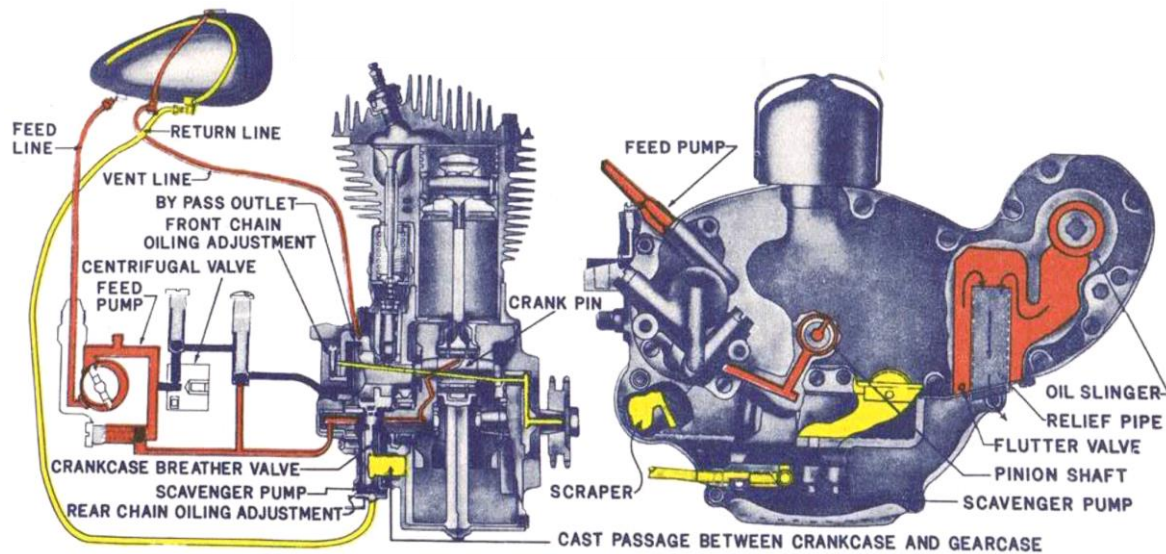
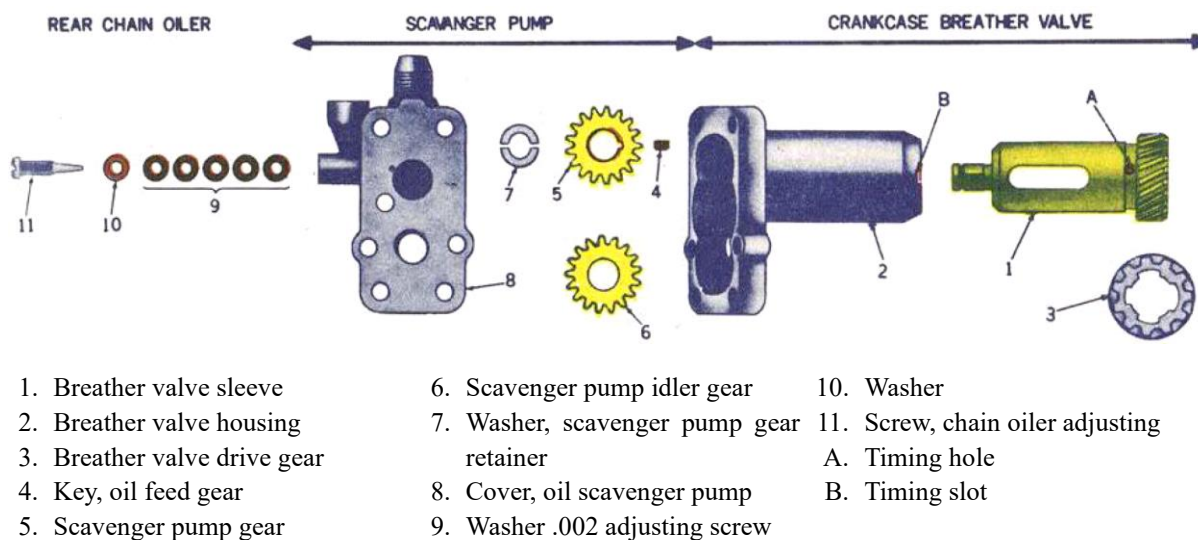

Figure 17 WLA engine lubrication system
Figure 19 The crankcase breather valve
4. The scavenger pump is below the oil screen in the bottom of the gear case and forces used engine oil back to the oil tank above the engine. It is a gear type pump and is powered from the crankcase breather valve by means of a short shaft, to which is keyed and locked the main driving gear of the scavenger pump (see Figure 19).
The motorcycle has a dry sump, air cooled engine with force oil feed to the lower connecting rod bearings - the hardest working bearings in the engine. A supply of oil is maintained in the 3 ½ quart tank above the engine and an oil line leads from the tank to the feed pump (see Figure 17).
As oil is blown into the gearcase through the breather valve, it naturally contains considerable air mixed in with it, and this air must be separated from the oil and relieved to the atmosphere in order to maintain the proper balance of pressure inside the gearcase. Air will also be brought into the gearcase through the pressure relief line from the engine oil tank to the gearcase (see Figure 17). This air, plus that which has entered through the breather, is mixed with the oil in a fine mist forms, and to separate the oil from the air an oil “slinger” is placed on the end of the generator armature protruding into the gearcase. This slinger is simply a perforated steel collar which revolves with the armature. It acts much as a cream separator, in that as the mist of air and oil strikes the slinger it begins to separate that oil which heretofore was suspended in the air in the form of a fine mist. As the mist strikes the revolving slinger, centrifugal force causes the relatively heavier oil particles to be thrown downward into the curved passage leading to the relief pipe in the gearcase cover. The air rushes on through the curved line, seeks the relief pipe, and vents to the atmosphere. But as the heavier oil mist rushes down the passage and meets the sharp bend at the relief pipe it is thrown downward and lies about the base of the pipe. Thus it does not escape to the outside.
The breather valve is a control valve of the oil circulating system and it must be correctly timed. It is driven by a spiral gear on the pinion shaft and is placed in such a position that a slot or "window" in the housing of the valve sleeve is located at the gearcase end of a cast oil passage between the crankcase and the timing gearcase (see Figure 17 and Figure 19).